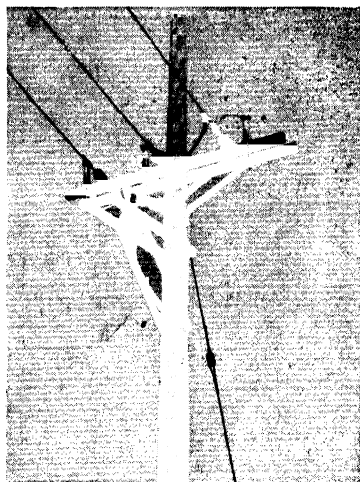
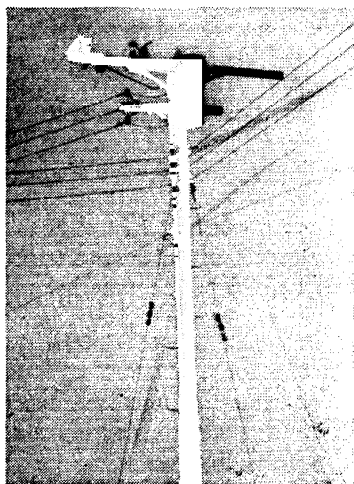

FIG. 4-32. Terminal guy at end of distribution-pole line. Guy counterbalances pull of line conductors. (Courtesy Line Material Co.)
FIG. 4-33. Two corner guys opposing the pull of the line conductors in two directions. (Courtesy Line Material Co.)
*Terminal guys* are used at the ends of the pole lines in order to counterbalance the pull of the line conductors. Figure 4-32 illustrates a terminal guy. Corner guys, illustrated in Fig. 4-33, likewise counterbalance the pull of the line conductors.